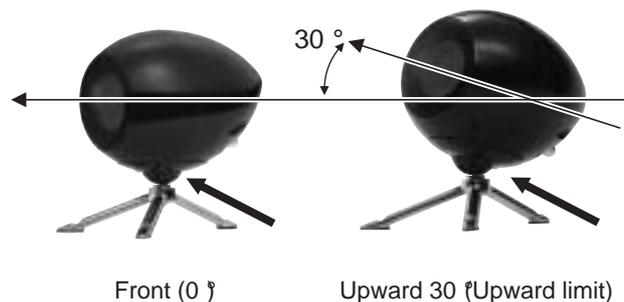

Fig.5 Limit of Angle Adjustment
A conceivable mechanism to clear task (2) is to enlarge the adjustable range by changing the angle adjustment part (with bold pointer) in Fig.5 below. However, the bigger the adjuster part becomes, the weirder the speaker becomes in appearance. We had eyes on this point to be worked out in order to solve the task (1) and (2) at the same time.